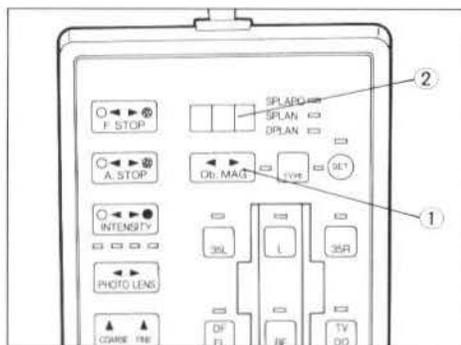

Fig. 39
- ① Swing in the 10X objective.
- ② Ascertain that the condenser turret is rotated to the 20 – 10 position.
- ③ Press the objective magnification selector (Ob. MAG.) button ① until the objective magnification "10" appears on the display window ②. (Fig. 39)